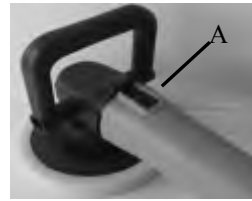

Fig.1
- 3 Slide the switch button(A),Fig .1,forward to start the motor ,Slide the switch button rearward to stop motor .